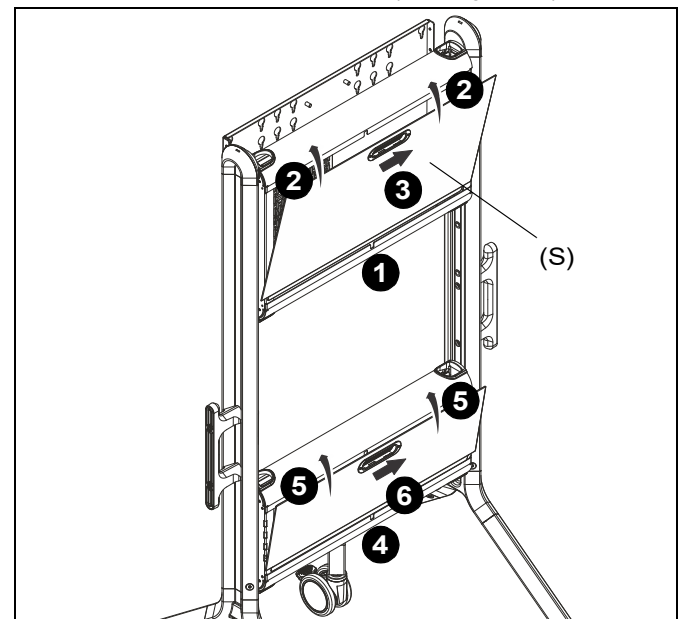

Figure 16
1. Place large cover (S) in position to install by placing lower edge along slot that holds cover. (See Figure 16)
2. Press large cover (S) against cart until it is flush with cart and is secured in position. (See Figure 16)
3. Slide handle to locked position. (See Figure 16)
4. Place small cover (R) in position to install by placing lower edge along slot that holds cover. (See Figure 16)
5. Press small cover (R) against cart until it is flush with the cart and is secured in position. (See Figure 16)
6. Slide handle to locked position. (See Figure 16)